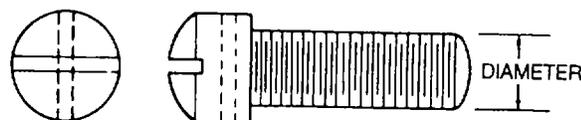

Figure 2-39. Fillister Head Screw
(3) Fillister head screws. Use general purpose fillister head screw, MS35265 and MS35275 coarse thread, and MS35266, fine thread, as capscrews in light mechanisms, such as for attaching cast aluminum gearbox cover plates. These screws have no grip, and those larger than No. 6 have one hole drilled through the head for safe tying. Fillister head screws, AN502, fine thread, and AN503, coarse thread, are heat treated. They have a small grip and are used as capscrews where greater strength is required. The coarse threaded screws are commonly used as capscrews in tapped aluminum alloy and magnesium castings because of the softness of the material. Fillister head screws are shown in figure 2-39.